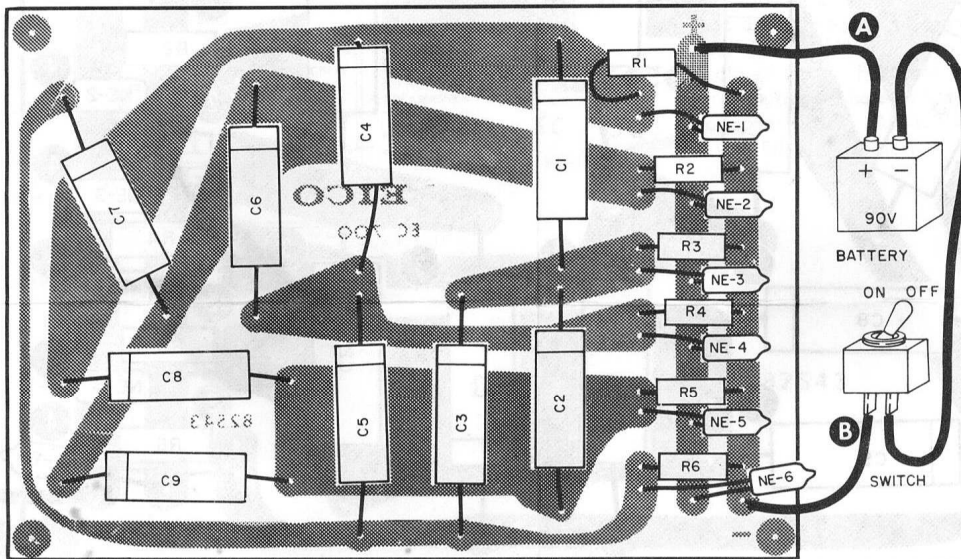
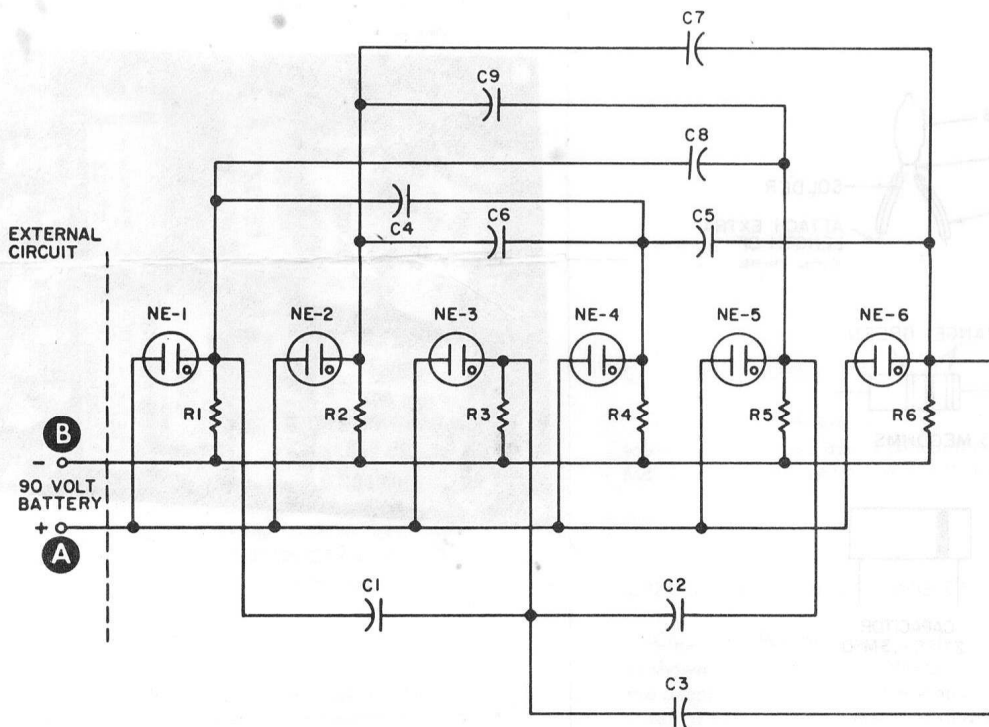

Figure 4. External Circuitry
Figure 5. Schematic Diagram
5. Additional insulated hookup wire will be necessary for components remotely mounted from the printed circuit board depending upon your individual installation requirements. (See figure 4).
3. ( ) INSTALL the leads of each of the nine 0.25 uf CAPACITORS\* in the drilled holes of the printed circuit board at the positions shown in figure 4. CUT the leads and solder in the same manner as in the previous step. OBSERVE POLARITIES.
5. ( ) PREPARE two pieces of insulated wire (not supplied). CUT to the desired lengths. Actual length depends upon the distance for remotely mounted components (see figure 4). STRIP 1/4" of insulation from each of the two colored leads. PUSH the bare end of each wire through the applicable hole in the printed circuit board from the component side. BEND the lead flush with the COPPERFOIL SIDE and solder.
Connect a 90-volt battery to the printed circuit board leads A and B as shown in figure 4. An ON-OFF switch may be connected between the negative side of the battery and lead B. The completed kit and external circuit can be mounted in a compact metal cabinet. When the leads are connected to the battery, the pattern of lights will begin to blink at various intervals. Fig. 5 shows the schematic diagram for your kit.